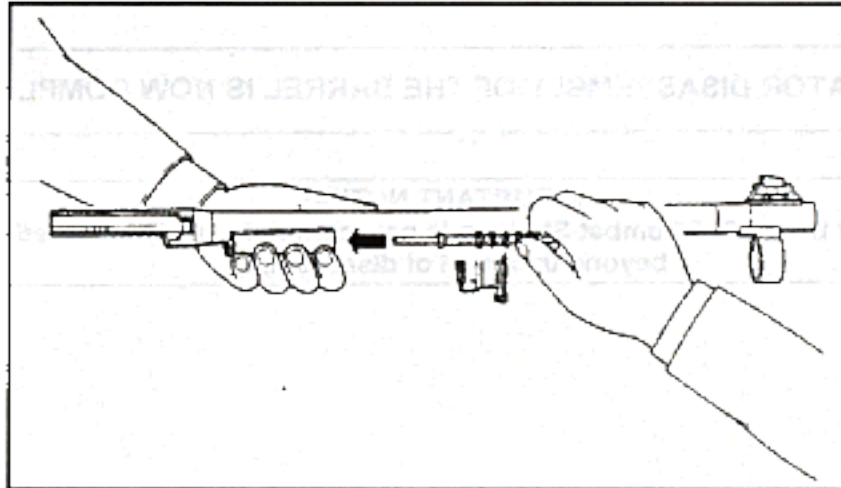

Figure 30a. Installing the gas piston
- A. Install the gas pistons into the gas cylinders with the long extension facing the rear of the barrel (Figure 30a).